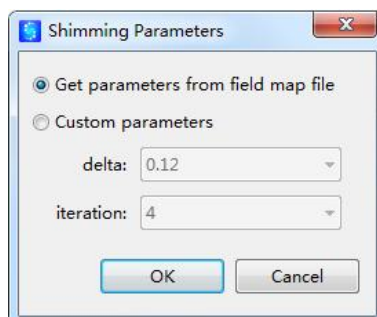

Figure 2.23 Shimming Parameters dialog
- (2) Click **Setting** button to open the dialog box for Shimming Parameters. User can select Get parameters from field map file, or select Custom parameters to give new values for delta and iteration (Figure 2.23).